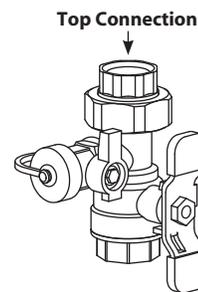

Figure 2: Cold Water Service Valve
- Install the COLD WATER SERVICE VALVE (Figure 2) onto the cold water inlet of the tankless water heater.